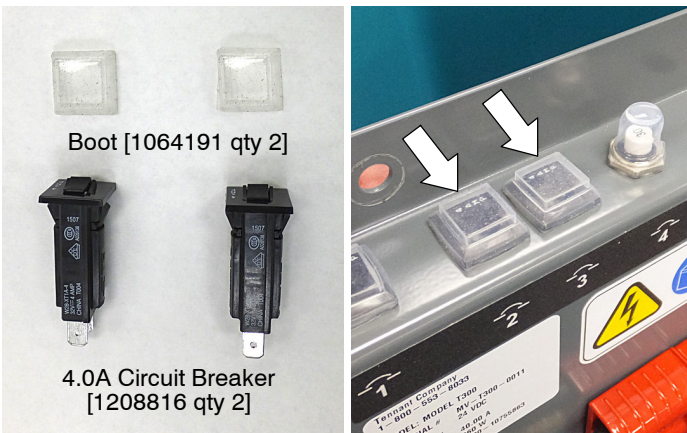

Fig. 13
2. Using circuit breaker boots, install the two 4.0 amp circuit breakers into the circuit breaker panel (Figure 13).